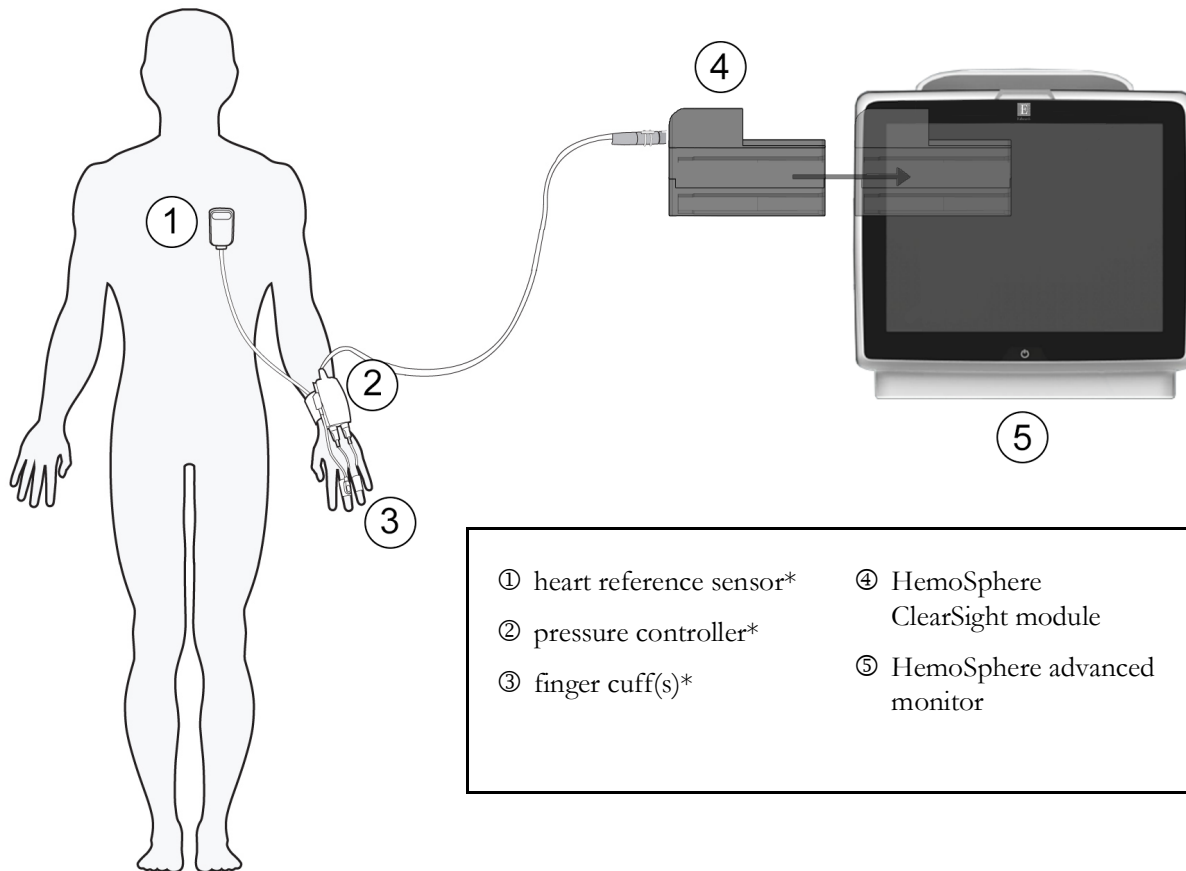

Figure 11-1 HemoSphere noninvasive system connection overview
The HemoSphere noninvasive system is composed of the HemoSphere advanced monitor with ClearSight module and connected pressure controller, heart reference sensor, and compatible Edwards finger cuff(s). See system connections in figure 11-1 on page 182. Accurate measurement of the patient’s blood pressure and key hemodynamic parameters is based on the Volume Clamp method, Physiocal method and ClearSight algorithm.
The HemoSphere ClearSight module is compatible with all approved Edwards finger cuffs. See figure 11-1 for an overview of the HemoSphere noninvasive system connections.
NOTE Components indicated by * figure 11-1 legend are APPLIED PARTS as defined in IEC 60601-1 that in normal use necessarily come into physical contact with the patient for the HemoSphere noninvasive system to perform its function.
- 3 Attach the pressure controller cable to the HemoSphere ClearSight module. (figure 11-1)